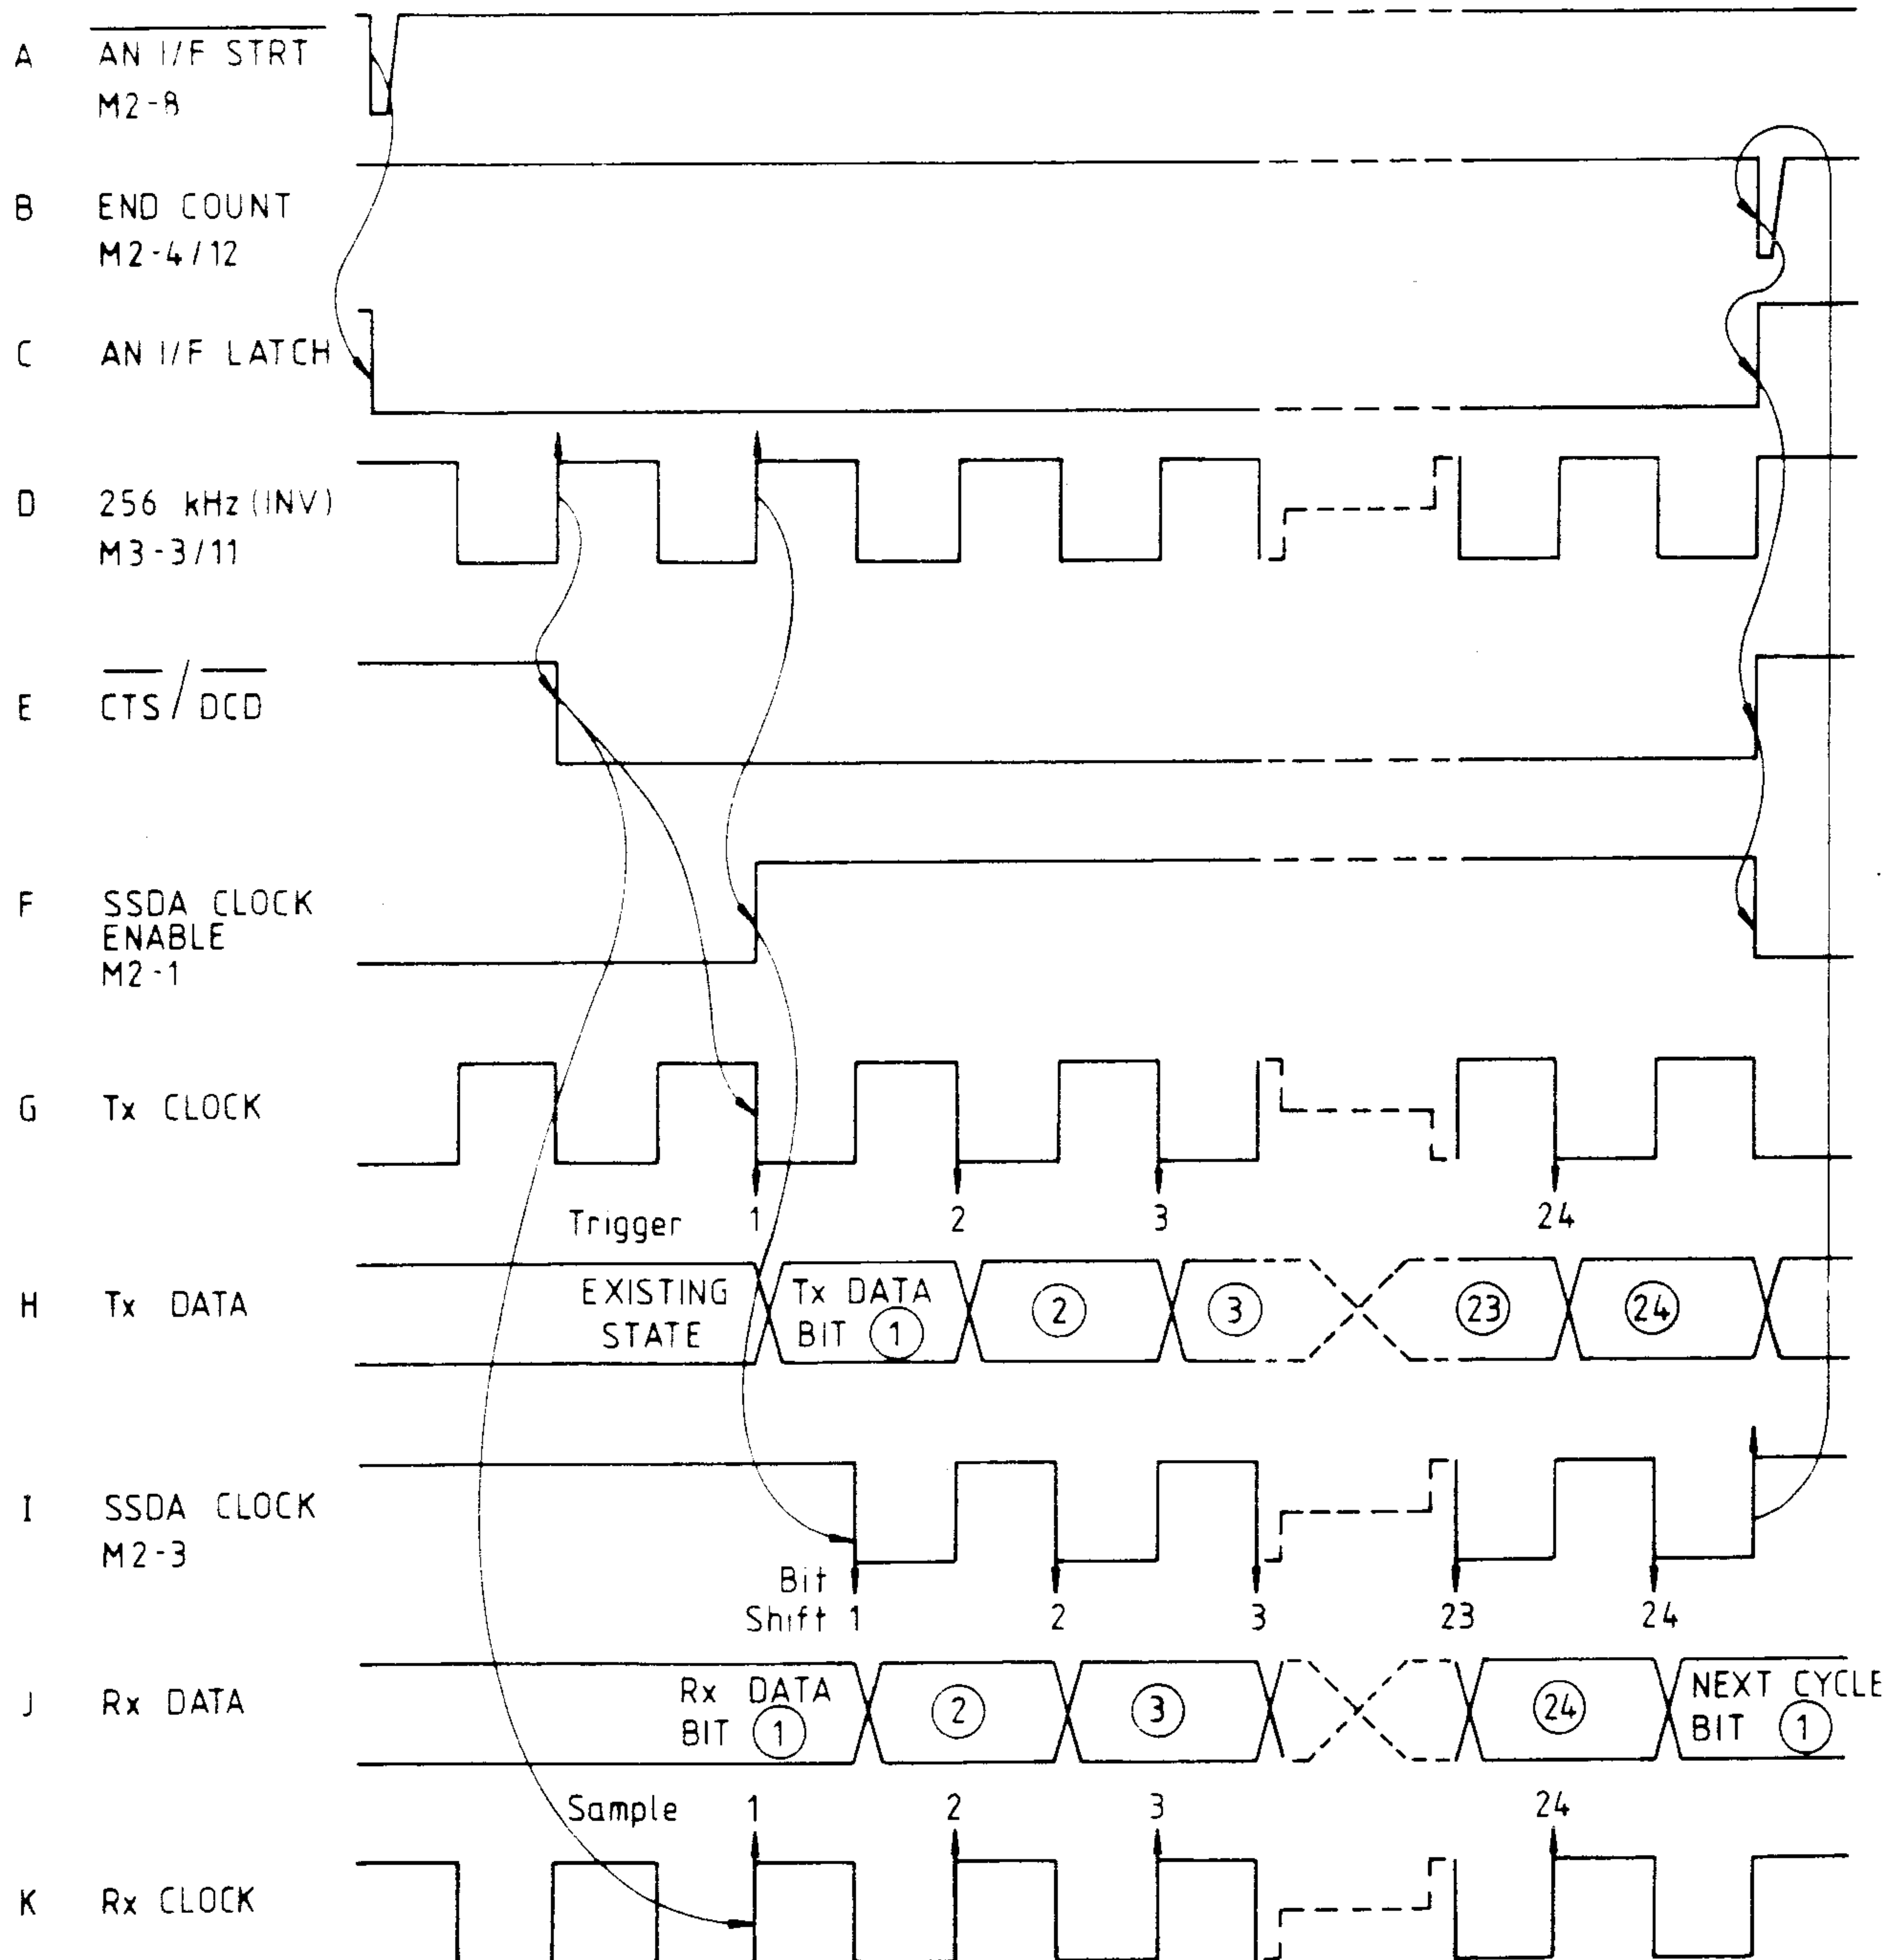

FIG. 6.16 SSDA CLOCK GENERATOR WAVEFORMS
(Fig. 6.16)
(Refer to Fig. 6.16 Waveforms G and H).
(Fig. 6.16 Waveforms K and J).
(Refer to Fig. 6.16 Waveform I).
- (Refer to Fig. 6.16 Waveforms A and C).
(Refer to Fig. 6.16 Waveforms D and E).
(Refer to Fig. 6.16 Waveforms D, F and I).
(Refer to Fig. 6.16 Waveforms I, B, C, E and F).